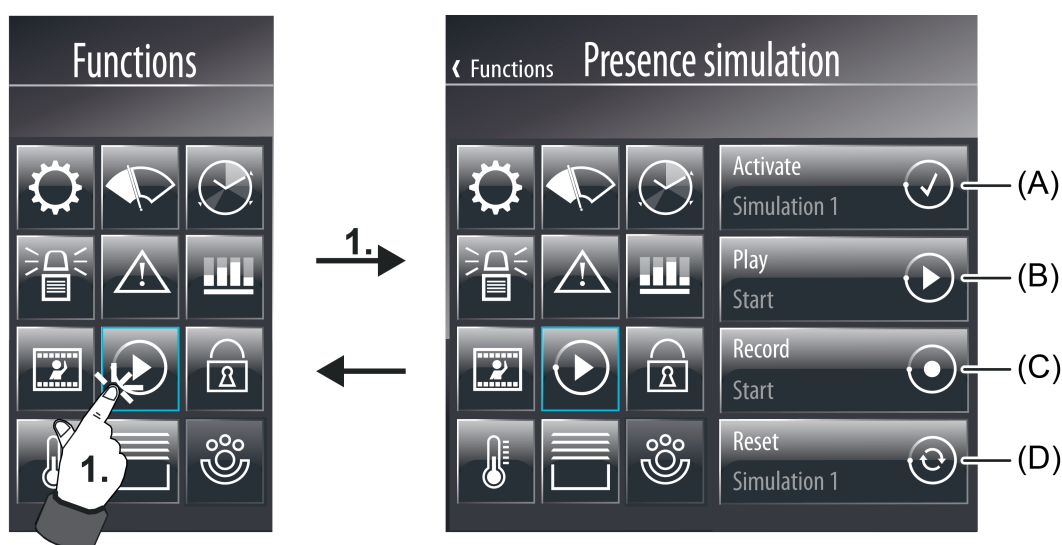

Figure 96: Example of a display page of the presence simulation in the function view (right)
As soon as the display page of the presence simulation is opened, 4 control surfaces that execute various functions appear in the display (figure 96).
An entire simulation can be reset if required. At the same time, all function assignments and the saved telegrams are deleted. The simulation is reset when the control surface (D) is pressed on the page of the presence simulation (figure 96).